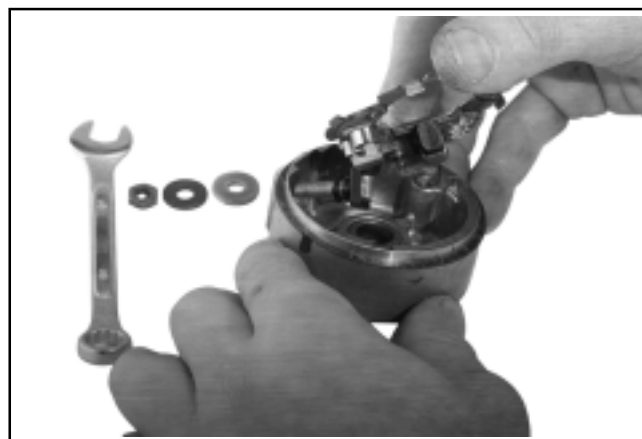

Figure 8-32. Removing Brush Plate.
1. Remove the lower jam nut, metal washer, insulating washer, and O-Ring from the positive (+) stud. Carefully push the stud inward to separate the brush plate assembly from the end cap. See Figure 8-32.